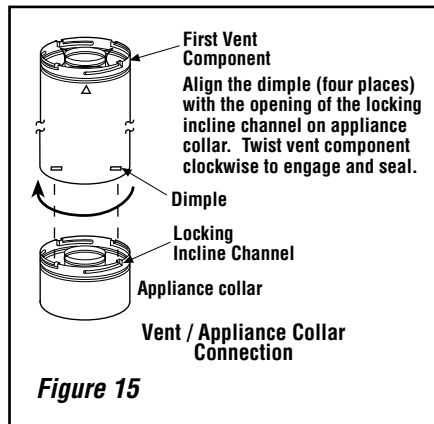

Figure 15
- Secure Vent SV8 direct vent system components are unitized concentric pipe components featuring positive twist lock connections (see **Figure 15**).
To attach a vent component to the appliance collar, align the dimpled end over the collar, adjusting the radial alignment until the four locking dimples are aligned with the inlet of the four inclined channels on the collar (refer to **Figure 15**). Push the vent component against the collar until it fully engages, then twist the component clockwise, running the dimples down and along the incline channels until they seat at the end of the channels. The unitized design of the **Secure Vent** components will engage and seal both the inner and outer pipe without the need for sealant or screws. If desired a #6 x 1/2" screw may be used at the joint, but it is not required as the pipe will securely lock when twisted.
To attach a vent component to the appliance collar, align the dimpled end over the collar, adjusting the radial alignment until the four locking dimples are aligned with the inlets of the four incline channels on the collar (refer to **Figure 15 on Page 12**).